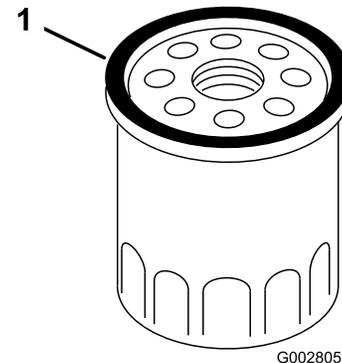

Figure 33
7. Use your finger to coat the gasket on the new filter with oil (Figure 33).